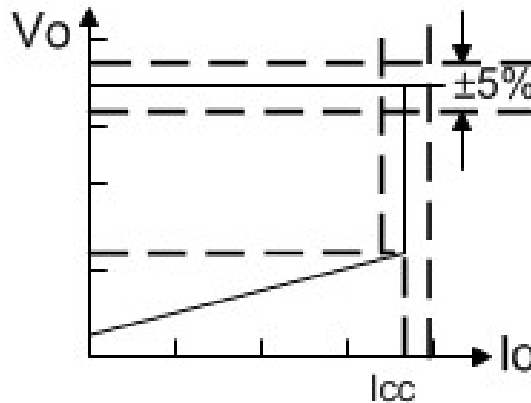

Fig.1 : Typical CC/CV curve
The ME8310 is a high performance offline PSR controller for low power AC/DC charger and adapter applications. It operates in primary-side sensing and regulation. Consequently, opto-coupler and ME431 could be eliminated. Proprietary Constant Voltage (CV) and Constant Current (CC) control is integrated as shown in the figure.1 below.
ME8310 is designed to produce good CC/CV control characteristic as shown in the Fig.1. In charger applications, a discharged battery charging starts in the CC portion of the curve until it is nearly full charged and smoothly switches to operate in CV portion of the curve. The CC portion provides output current limiting. In CV operation, the output voltage is regulated through the primary side control. In CC operation mode, ME8310 will regulate the output current constant regardless of the output voltage drop.